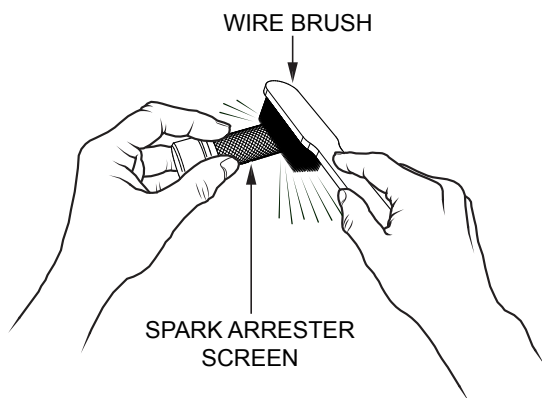

Figure 33. Cleaning The Spark Arrester
3. Clean the spark arrester screen with a stiff bristle brush (Figure 33). If carbon buildup is present, soak or spray the spark arrester screen with carburetor cleaner and blow dry from the inside out with low-pressure compressed air.